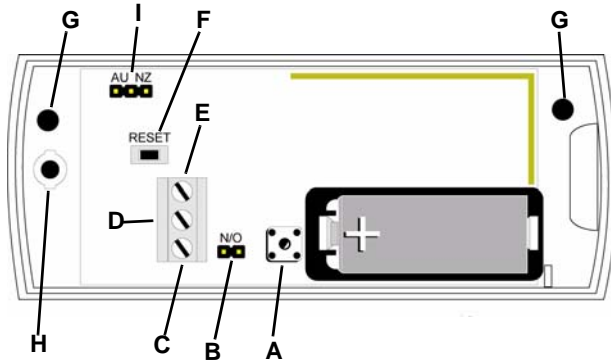

Figure 1 EN1216 components
1. When prompted by the receiver to reset transmitter, press the **Reset** button (Figure 1).
2. Mount the transmitter to the wall using the the wall-mount screw holes (Figure 1), ensuring the housing is flush against the wall and the wall tamper switch is firmly depressed.
4. Secure the housing through the enclosed housing screw hole (Figure 1). Accessing this screw on an active transmitter requires opening the housing, causing a tamper condition.